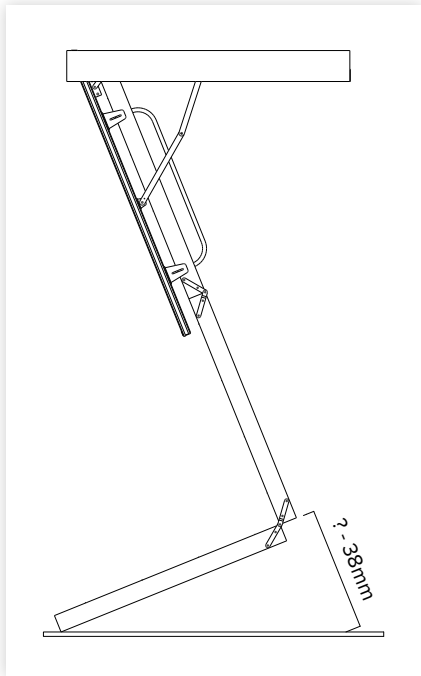

figure 11
2. With the top and middle sections of the ladder open and the bottom section tucked in behind, measure the distance from the bottom of the middle section, to the floor at the same angle as the ladder (figure 11). Do this on both sides.
3. Once you have determined the length of '?' (figure 11) deduct 38mm. Transfer these measurements to the front of each side of the bottom section of the ladder. Cut at 90 degrees. You may wish to remove the bottom section to complete this step.